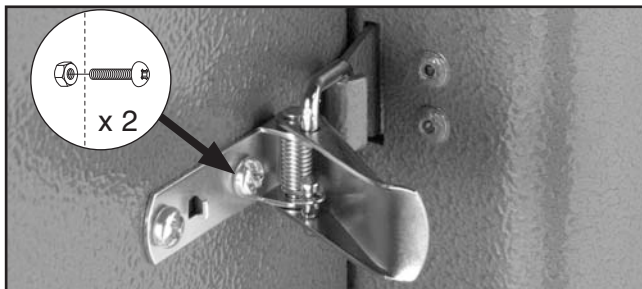

Figure 18. Latch installed.
12. Attach the latch to the motor cover with (2) #8-32 x $\frac{3}{8}$ " Phillips head screws and (2) #8-32 hex nuts, as shown in **Figure 18**.